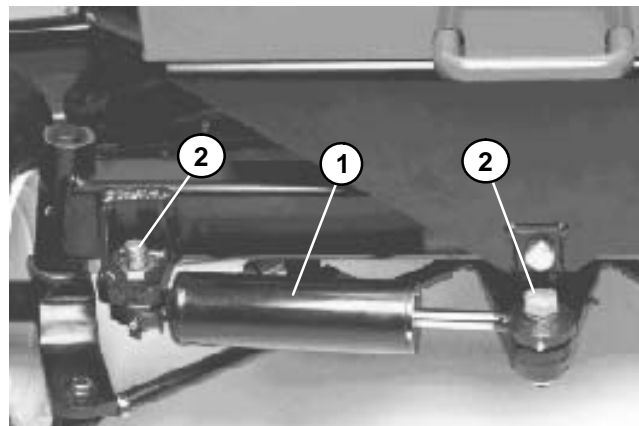

Figure 17
A. (2WD) Remove the lock nut and capscrew securing the rod end of the cylinder to the steering pivot (Fig. 17).
A. (2WD) Hold the steering cylinder in position and install the lock nut and cap screw securing the barrel end of the cylinder to the rear axle (Fig. 17).